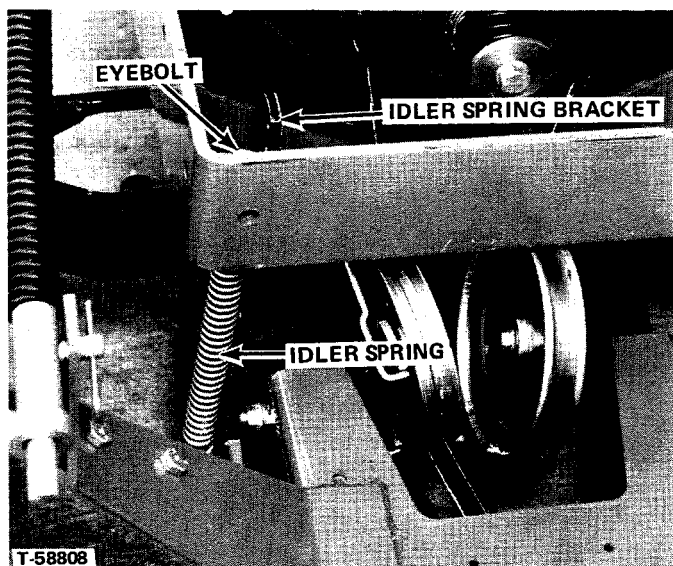

FIGURE 6
2. Loosen the bolts that hold the main drive brackets (Figure 6), to the snow thrower frame. Pull main drive tube assembly to rear until slack is removed from drive chain. Tighten bolt in left hand main drive bracket.
To install new drive belt loosen clamp bolt on left side of belt shield (Figure 6), and slide shield to left on main drive tube assembly to obtain access to driven pulley.